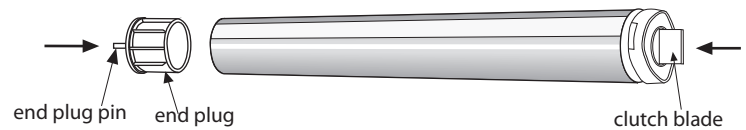

Figure 6. Install roller spring and end plug
Step 5. For best results, deburr the inside edge of the roller after cutting to the correct size. Insert the shade roller spring into the roller on the left side for regular wind, or on the right side for reverse wind as described in Figure 2 and as shown in Figure 6. Insert the end plug into the opposite end of the roller. This may require additional force, but do not push directly on the clutch blade or the end plug pin (see Figure 6).